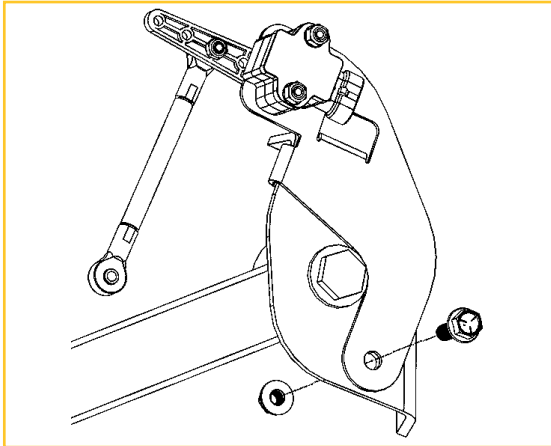

FIGURE 63 - RIGHT REAR
1. Install rear RHS bracket assembly to the frame using the existing hole and tighten to 17 ft-lbs. (FIGURES 63, 64, 65, 66, 67)